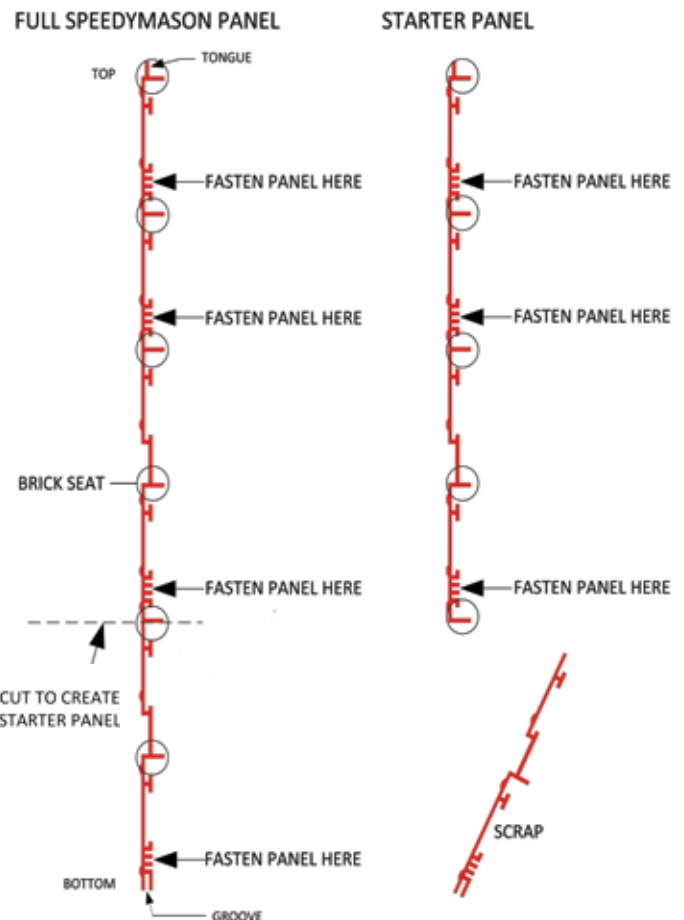

FIGURE 2
- D. Create a starter panel. **(See figure 2)**
- H. Fasten Brick Lath on the fastener strips. **(See figure 2)**
- Create a starter panel. **(See Figure 2)**
- Fasten Brick Lath on the fastening strips. **(See figure 2)**